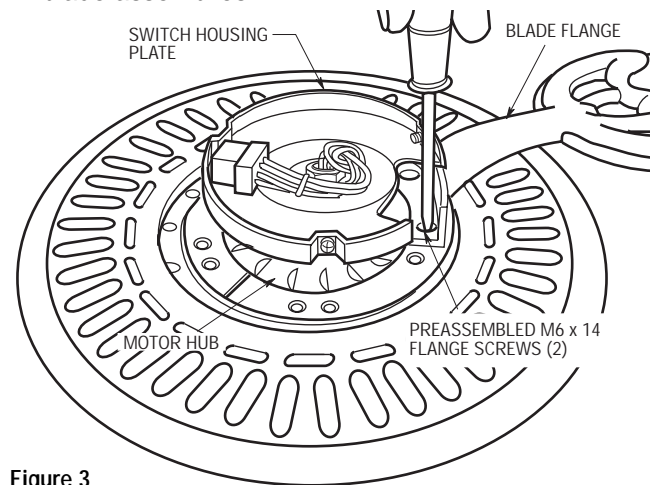

Figure 3
- 8. Rotate the motor hub until the flange screw hole is next to the cutout in the switch housing plate. Attach the blade assembly to the motor hub using the two M6 x 14 flange screws preassembled in flange (Figure 3). Make sure all screws are tightened. Repeat this procedure for the other four blade assemblies.